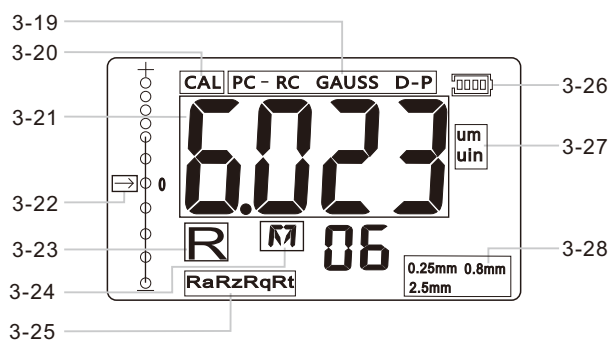

Fig. 3-5
7.2.1 Just depressing the key **[SEL MENU]** and not releasing it till 'FAC' on the Display. It is about 16 seconds from starting depressing key **[SEL MENU]**. This state is also marked by 'CAL', please see the Fig. 3-5.